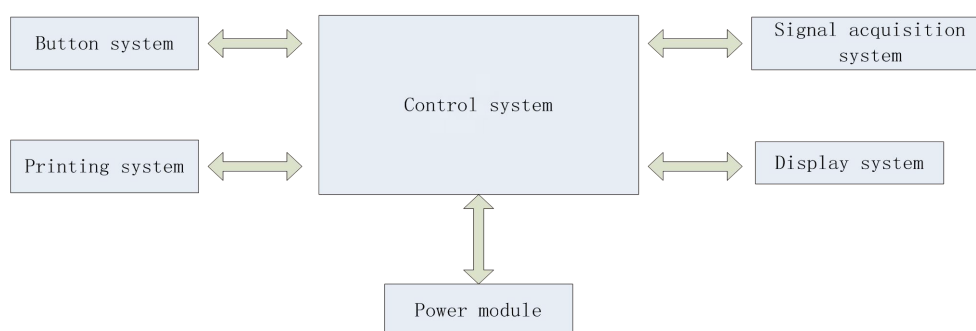

FIGURE 3-1 Block diagram of the control unit
(2) Principle block diagram is shown in Figure 3-1: